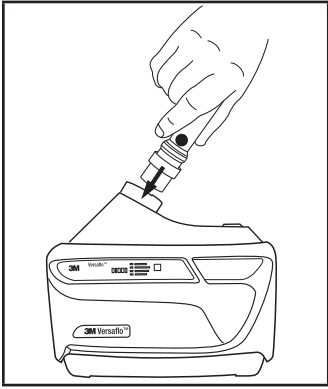

Fig. 14-1 – Attaching airflow indicator
- Insert the TR-971 into the outlet of the TR-800 motor/blower unit. If the breathing tube is in place, it must be removed to allow the airflow indicator to be inserted (Fig. 14-1).